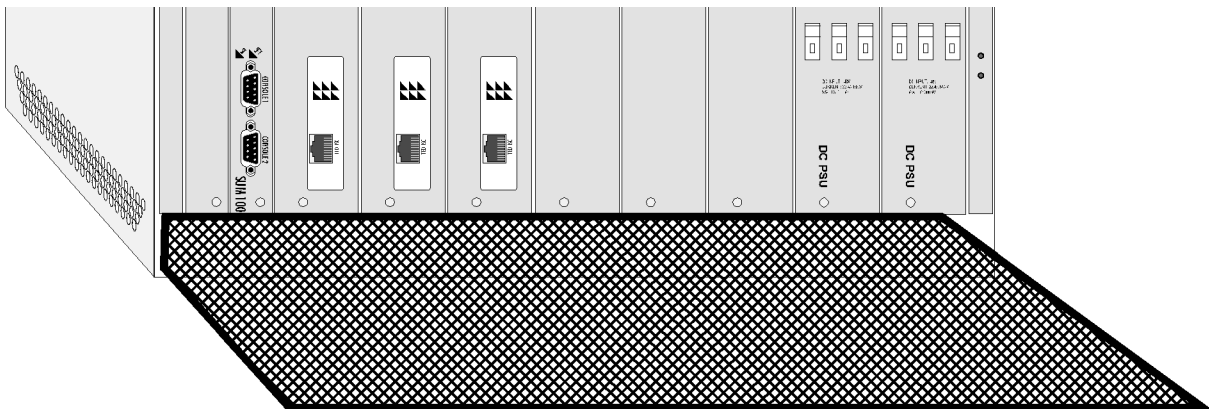

Figure 6-19. Removing the SA 1200 Air Filter
3. Remove the air filter from the SA 1200 as shown in Figure 6-19, and replace it with a clean air filter.